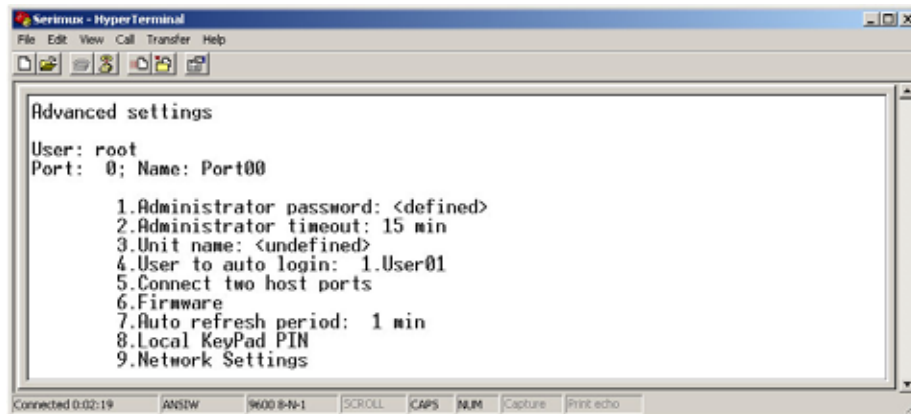

Figure 17- Administrator's Advanced settings menu
- press [7] to choose Advanced settings and press [Enter]. The Advanced settings menu will appear (Fig. 17)